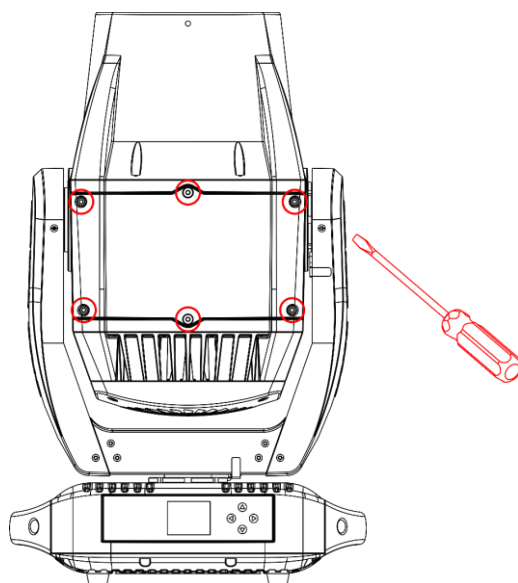

Fig. 12
- 04) Loosen the 6 screws on the head cover, as shown on Fig. 12.